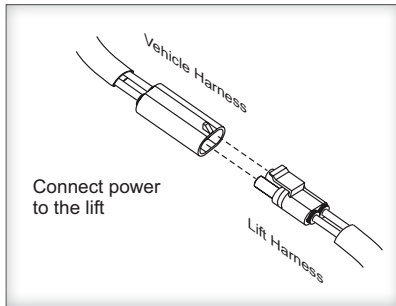
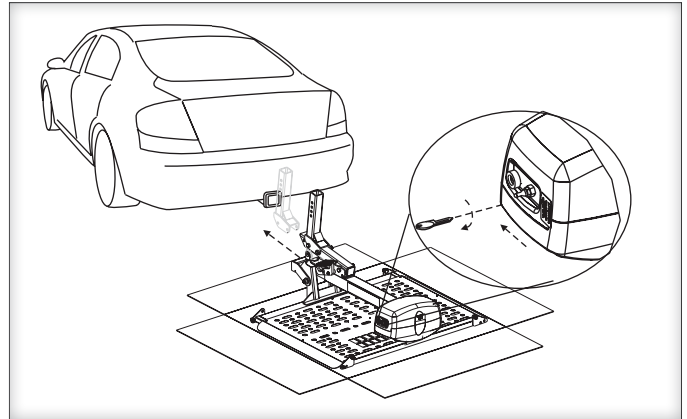

Figure 16-1
Figure 16-2
**4. Connect power to the lift.** [Figure 16-1] Insert and turn key. Press 'DOWN' to extend the lift. [Figure 16-2]